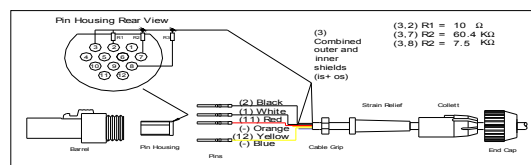

Fig 2.2
12. Solder all wires to the rear of pins and push/pull firmly into correct locations as shown in fig 2.2.